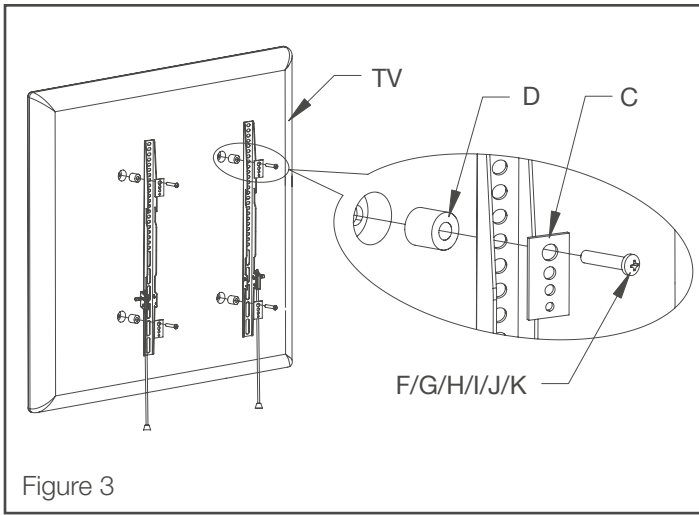

Figure 3
4. Gently put your mounting arms (M and N) on the back of the TV so that the mounting holes are showing through the holes of the mounting arms (see Figure 3).
5. Using the correct mounting bolt size and length, insert these through the corresponding hole on the multi-sized washer (C) to attach mounting arms to the rear of the TV (see Figure 3). To avoid damaging TV, do not over tighten bolts.